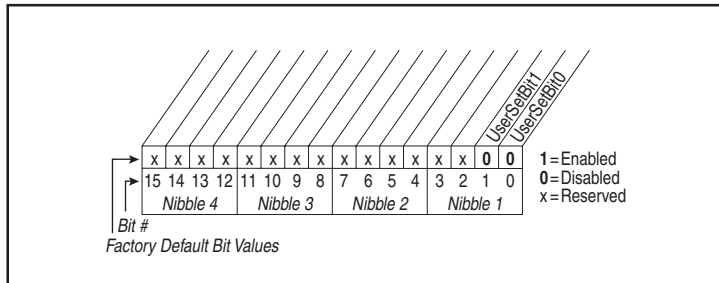

Figure 11.17 – DynUsrSetSel
**Range:** See figure 11.17.
**Default:** See figure 11.17.